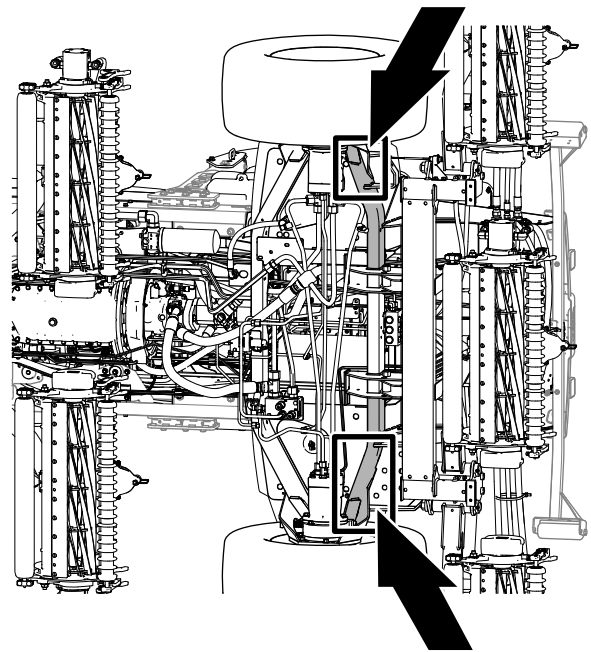

Figure 99
- Front of the machine—at the frame of the machine, forward of the wheel-drive motors (Figure 99).